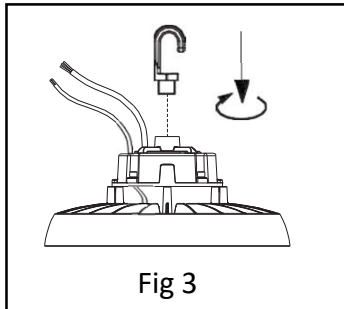

Fig 3
4. Screw the J-hook to the fixture. *See Fig 3.*